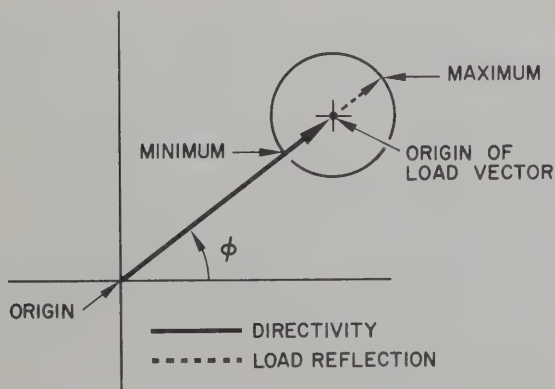

Figure 3-17. Typical Polar Plot Showing Method of Separating Load Vector from Directivity Vector when Directivity Vector is Larger than Load Vector
a. For single frequencies above 1GHz, setup the 8745A to measure the desired reflection coefficient (S_{11} or S_{22}). Calibrate the display unit and attach a sliding load (HP Model 907A) to the 8745A incident power port (INPUT PORT A or B). Slide the load to find the maximum magnitude* of reflection coefficient, $|\rho_1|$. Record $|\rho_1|$ and its phase angle. Slide the load to find the minimum magnitude** of reflection coefficient, $|\rho_2|$. Record $|\rho_2|$ and its phase angle. If the directivity vector is larger than the load reflection, the measured phase angle of $|\rho_1|$ and $|\rho_2|$ will be the same, as shown in Figure 3-17, and the magnitude of the directivity vector can be determined from: